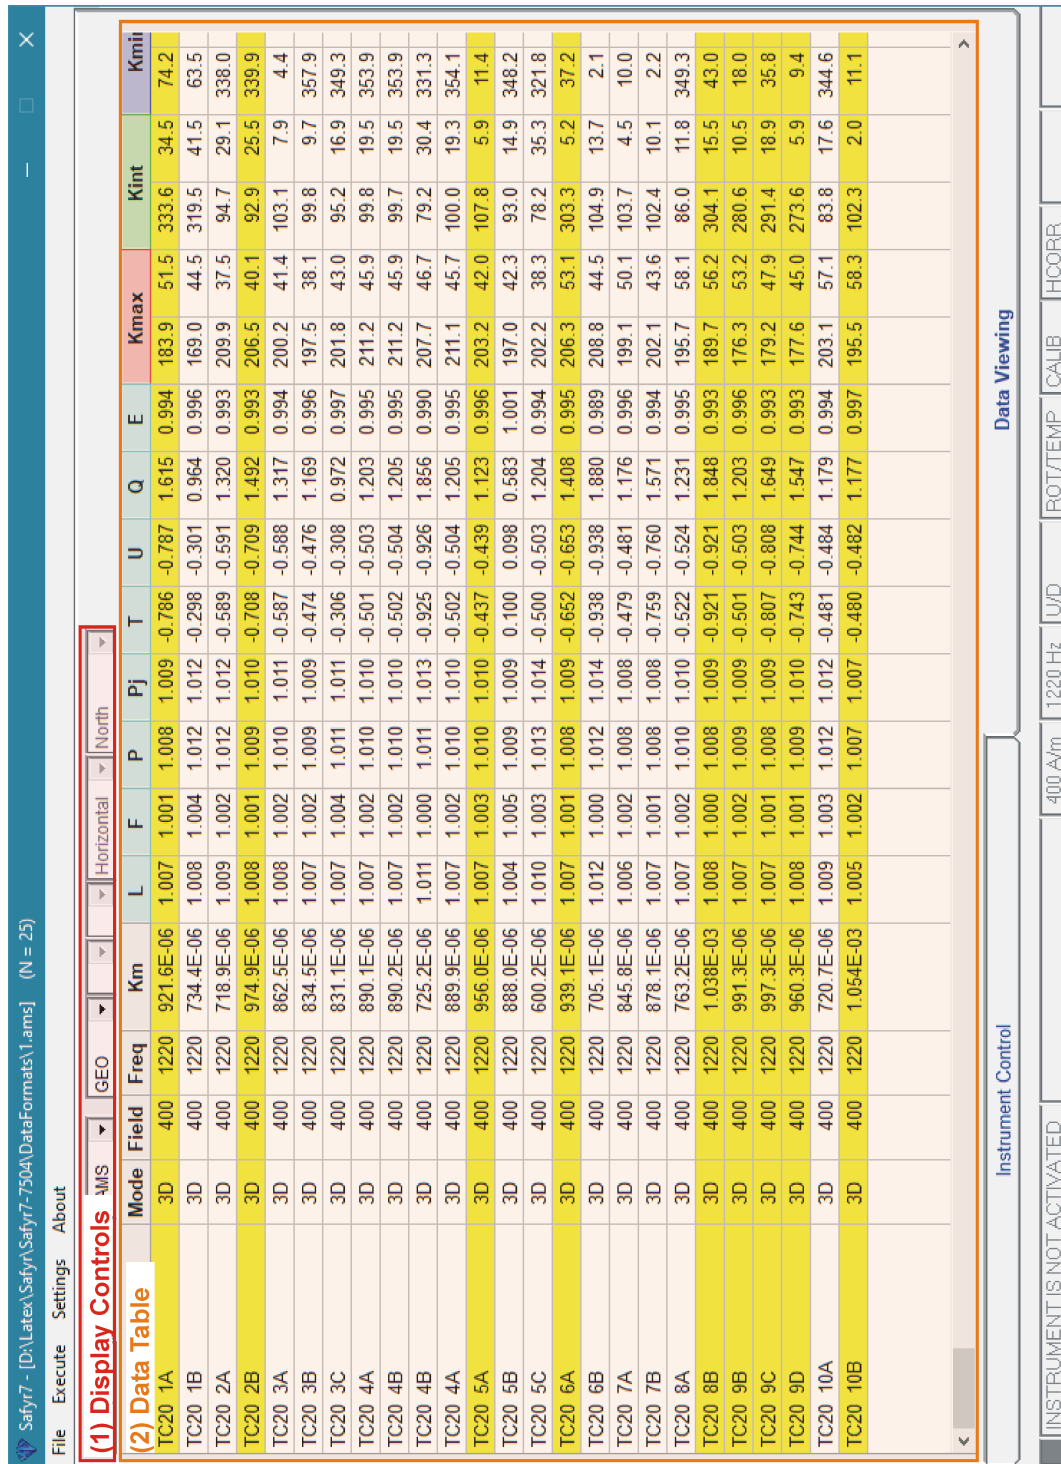

Figure 30: Data Viewing tab-panel displaying a table of magnetic anisotropy data of multiple specimens; color-coded frames highlight its main parts.
- The **Specimens** list may be expanded into **Data Table** (Figure 30) when **Table** option button is pressed.
- To select specimen(s), click on corresponding row(s) or draw the mouse over several rows with the left button pressed. For multiple selection, hold **Ctrl** to select individual multiple specimens or hold **Shift** to select entire range of specimen. The selected data records are highlighted in **yellow** in **(2) Specimens** list, **(3) Spherical Projection**, and both **(4, 5) Scatter Plots**.
- With the left mouse button pressed, draw a **yellow rectangle** to select encircled data points. The selected data records are highlighted in **yellow** in **(2) Specimens** list, **(3) Spherical Projection**, and both **(4, 5) Scatter Plots**. To separate overlapping data points, hold **Ctrl** for selecting K_{\max} only, **Alt** for selecting K_{int} only, or **Shift** for selecting K_{\min} only.